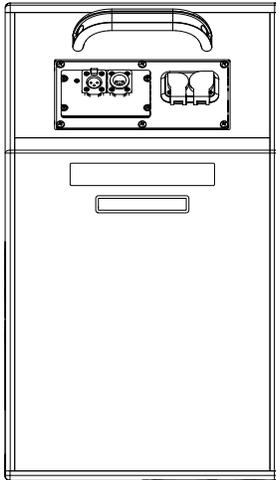
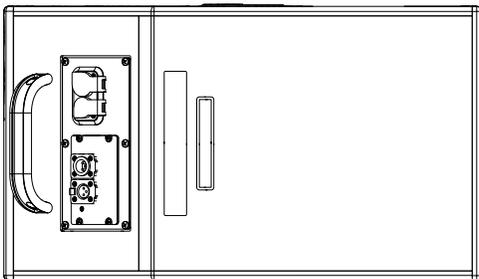

Figure 1: Only Permissible Vertical Orientation
Figure 2: Only Permissible Horizontal Orientation
**CAUTION:** When mounting the loudspeaker, ensure that the cables will exit from the bottom of the loudspeaker. There is only one permissible vertical orientation (handle on top, Figure 1) and one permissible horizontal (handle to the left when viewing it from the rear, Figure 2).